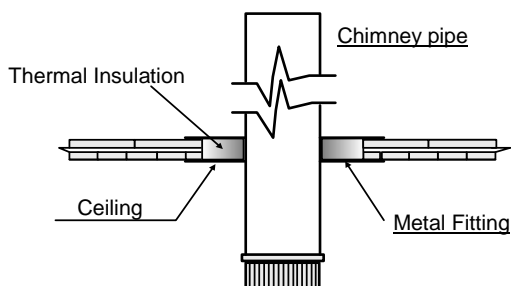

FIG: 2
5. Appropriate firebreaks, firewalls must be installed when a section of the chimney passes through floors and/or ceilings. The insulation will be at least 50 mm thick from the flue to the structure. It is necessary to protect the walls with wall protectors when the chimney is not at the indicated sage distance and damage may occur. (See Fig. 2.).